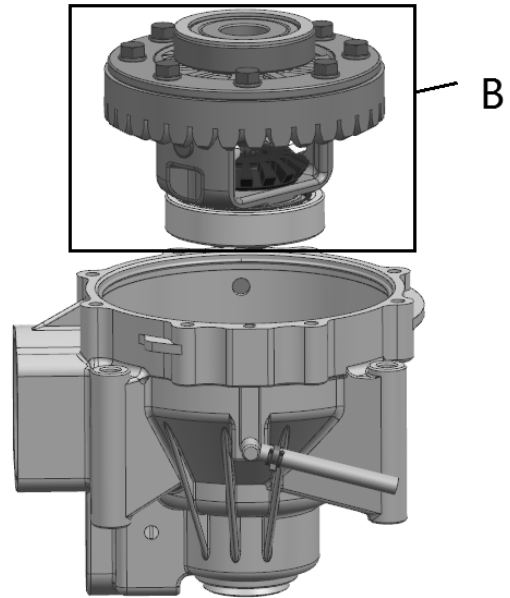

Fig 5
6.Remove the differential assembly (B) from the housing.. →Fig 5